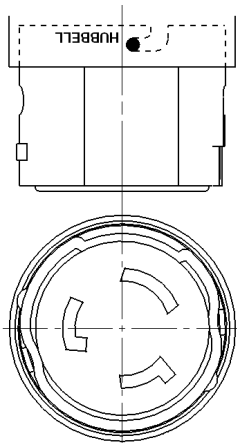

Fig. 2
- To assure proper assembly, check to see that the nib next to the Hubbell marking on the back metal cover is located on the center line of the rectangular depression in the front metal cover and the two "L" shaped slots on the front cover are completely covered by the back cover. See Fig 2. (Nib is shaded in black).